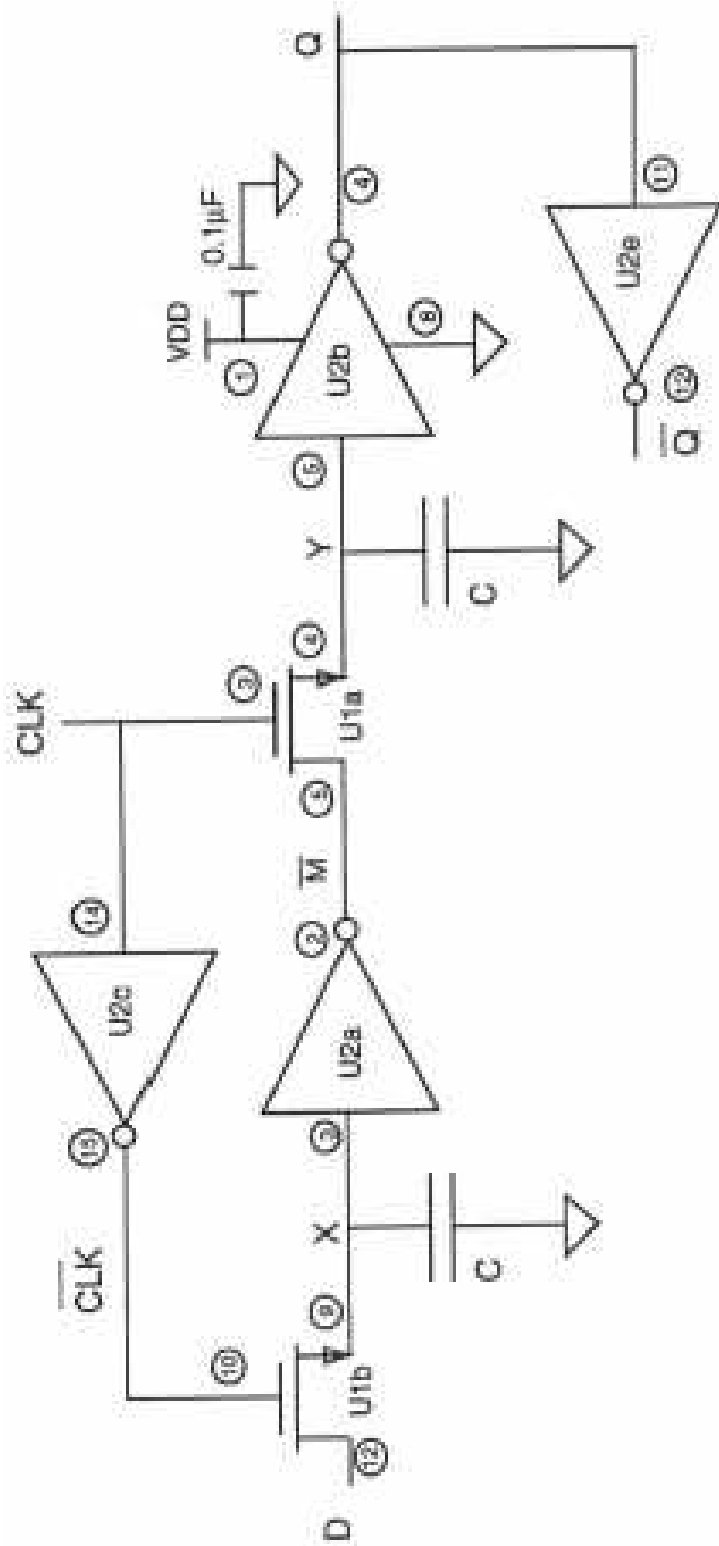
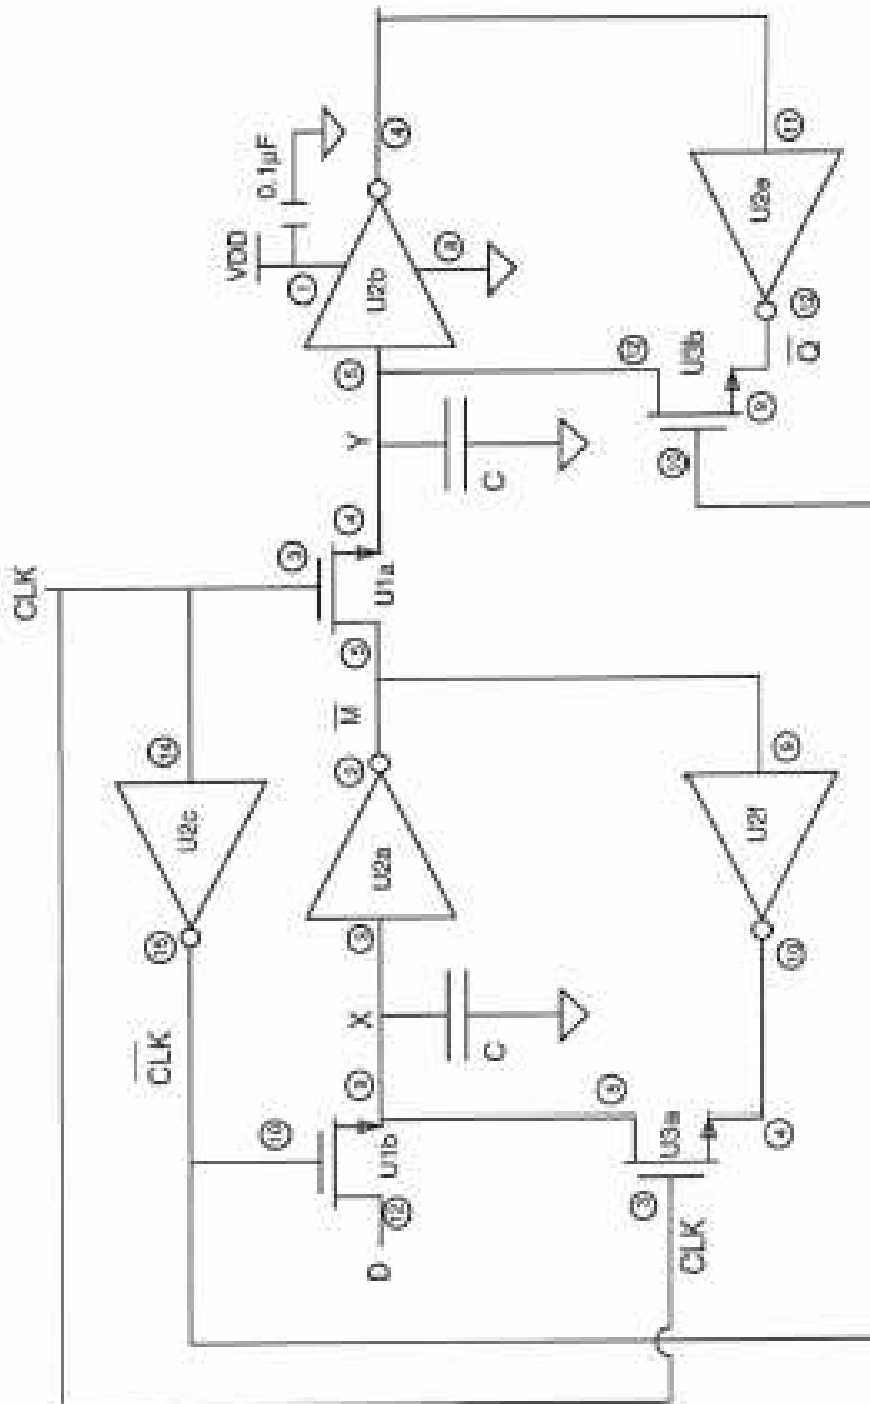

Figure 1: Dynamic D Flip-Flop schematic diagram.
Figure 3: Static MOS D Flip-Flop schematic diagram.
Step 1 Build the circuit in Figure 1 using the pin connections shown (the pin numbers are circled). Use $C=1000$ pF, $V_{DD} = 15V$, and $V_{SS} = 0V$. Be sure to connect pin 14 of the CD4007 to +15V and pin 7 to GND.
Step 7 Add the extra circuit shown in Figure 3 that will convert the dynamic flip-flop in Figure 1 to a static flip-flop. Use the available inverters in U2. Add U3, another CD4007, and connect its pin 14 to +15 V and pin 7 to GND.